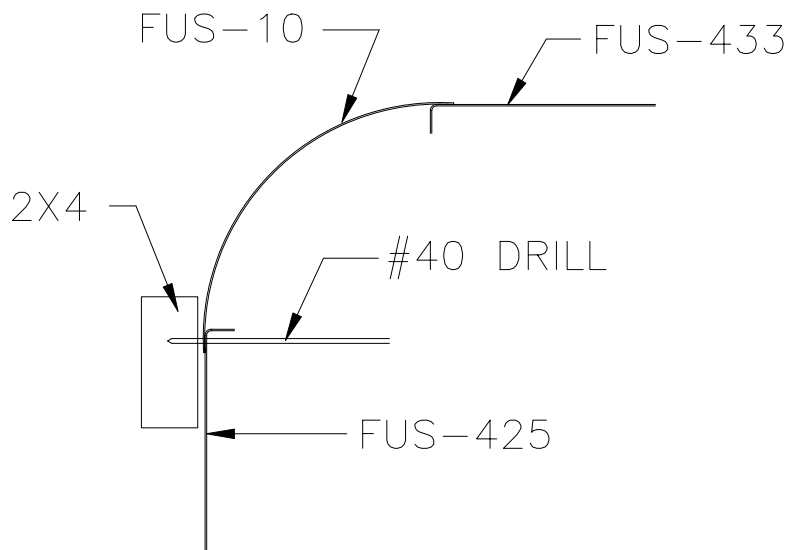

Figure 9.20.3
4) A helper is most handy for the drilling process. When drilling from the inside, have your helper press on the Corner Wrap from the outside with a block of wood (to protect their fingers). Drill #40 with a long drill bit. Figure 9.20.3.